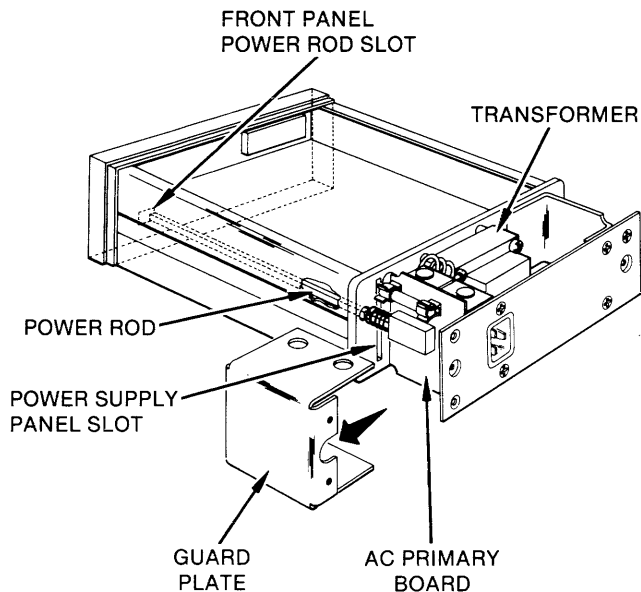
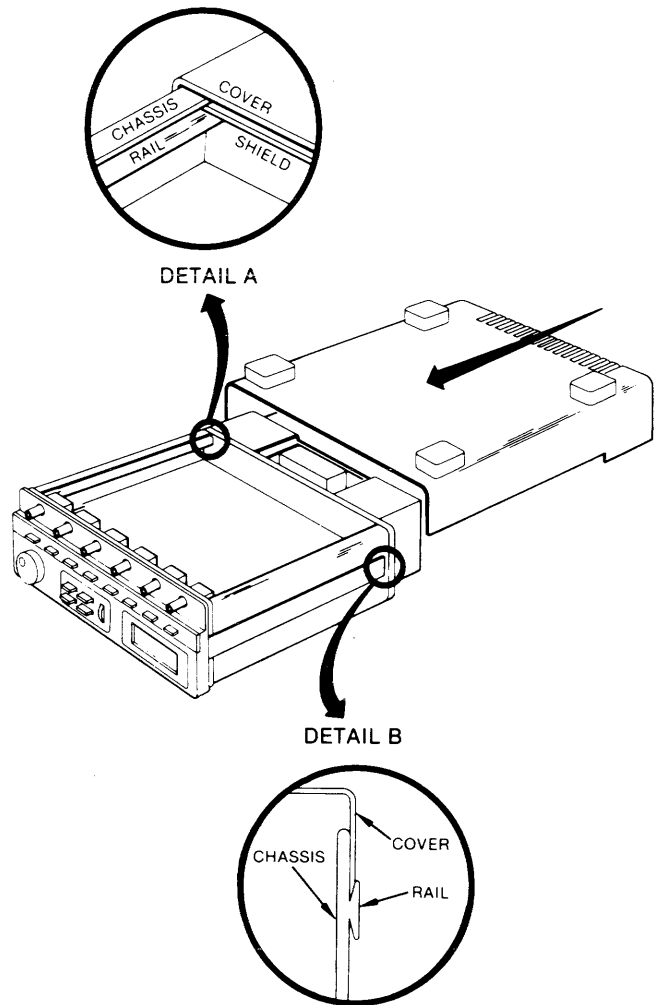

Figure 2-5. Rear Chassis Assembly
Figure 2-6. Top and Bottom Cover Installation
Refer to figure 2-5 for steps 1 thru 3 and figure 2-6 for steps 4 thru 6.
4. Turn the instrument upside down, position the bottom cover over the guard shield, and then slide the bottom cover forward approximately two (2) inches while engaging the top cover shield slides (see figure 2-6, detail A) and the outside slide rails (see figure 2-6, detail B).